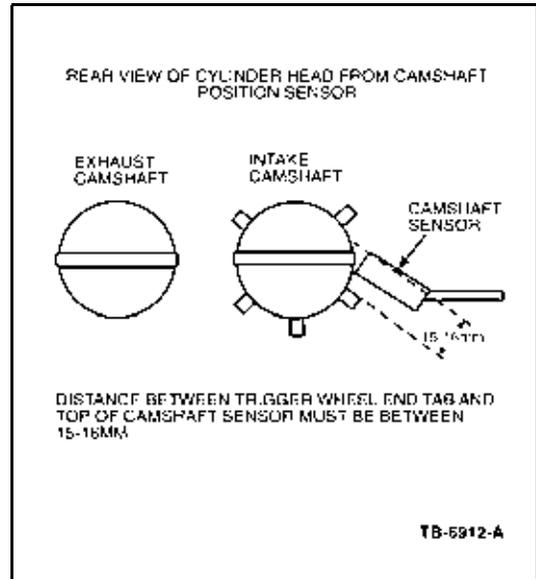

Figure 3 - Article 03-6-7
- 2. Inspect the intake camshaft position sensor trigger wheel alignment. With camshaft alignment tool, and crank timing peg installed, there should be 15-16mm between the top edge of the CMP sensor and the CMP trigger wheel tooth (Figures 3 and 4).